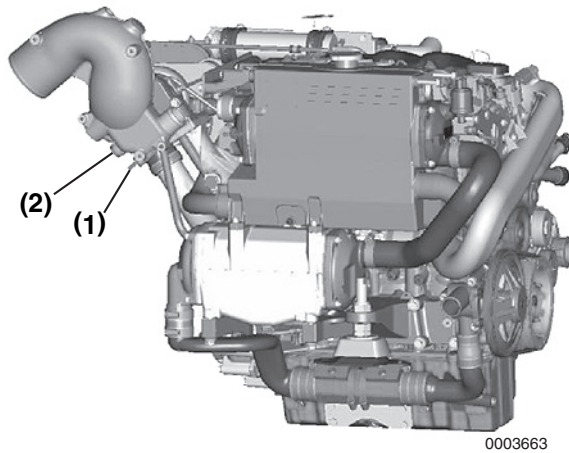

Figure 7-5
6. **Engines having the optional high-rise exhaust elbow:** Open drain cock (**Figure 7-5, (1)**) and allow water to drain. Remove and inspect zinc anode (**Figure 7-5, (2)**). **NOTICE:** NEVER use thread sealer or thread sealing tape when installing zinc anodes. Anodes must make good metal-to-metal contact to perform properly.